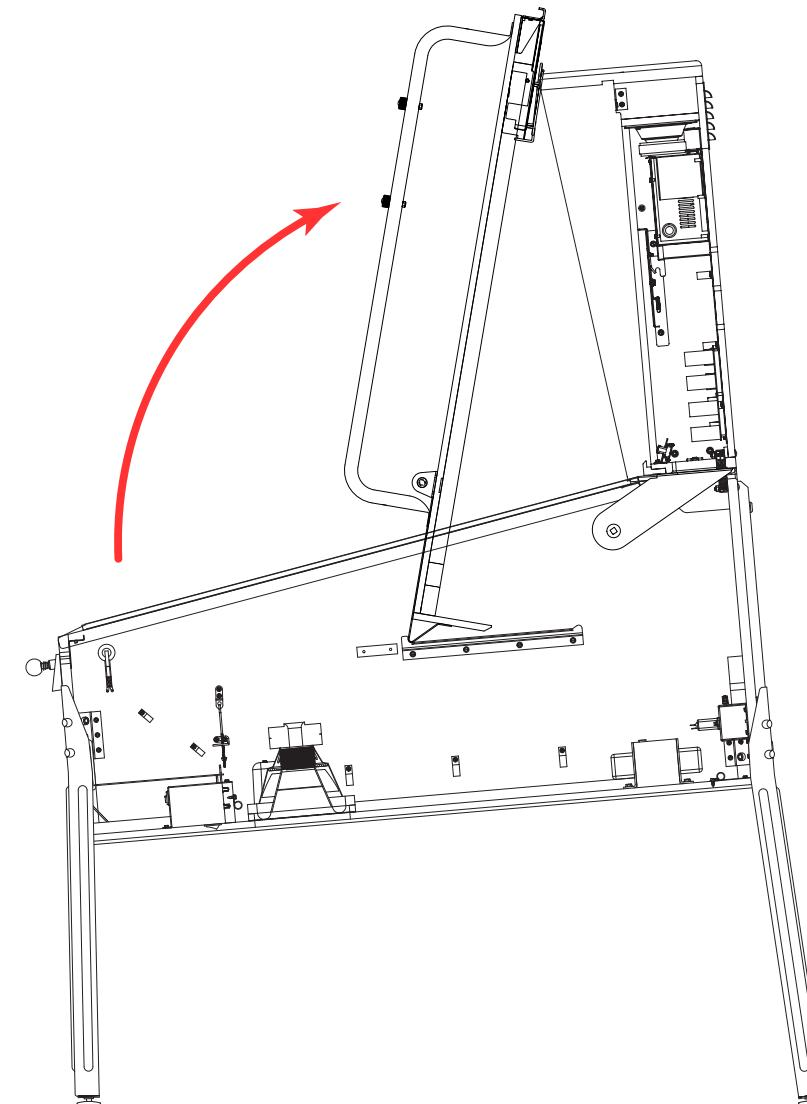

Figure A14. Moving the playfield to position 4.
15) Move the playfield from position 3 to 4 (figure A14). Grasp the two playfield support tubes and pull the playfield outward until the playfield support/slide bracket stop is reached; then swing the playfield up, carefully resting the bottom arch against the front of the backbox.